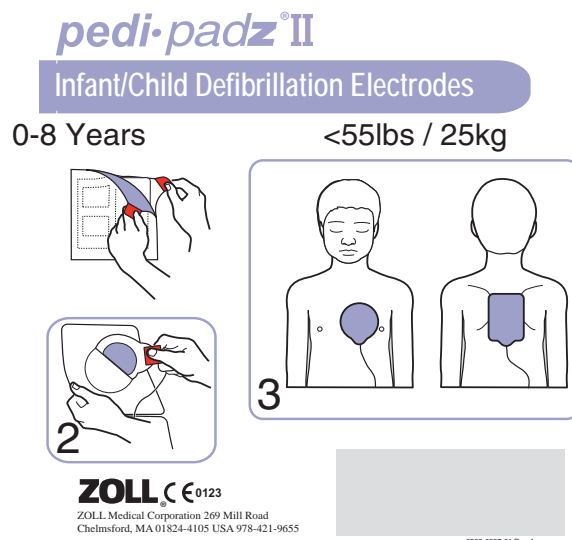

Figure 6: Placement of *pedi•padz II*
1. Tear open the electrode package and unfold the inner package to expose the electrodes. Place the electrodes on the victim according to the graphics on the package (see Figure 6).
2. Remove the round electrode from its backing material and place it on the victim's chest (as shown in Figure 6).
4. Roll the victim onto his/her chest, remove the square electrode from its backing and place it on the victim's back (as shown in Figure 6).